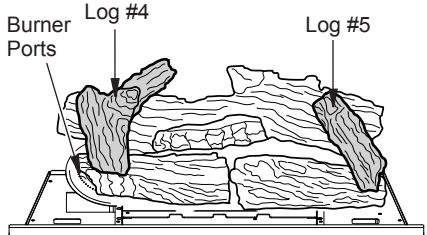

Figure 19 - Installing Logs 4 and 5
4. Install the recessed hole on the bottom of log 4 onto the pin on log 1 and place onto log 3 (see Figure 19).
5. Install the recessed hole on the bottom of log 5 onto the pin on log 1 and place onto log 2 (see Figure 19).